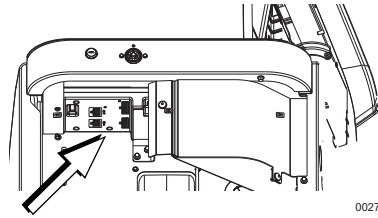

Figure 3-9. Accessory Port (Internal Breaker)
- See **Figure 3-9**. On models equipped with an internal breaker mounted near the controller, accessory port is visible from battery compartment when end panel is removed.